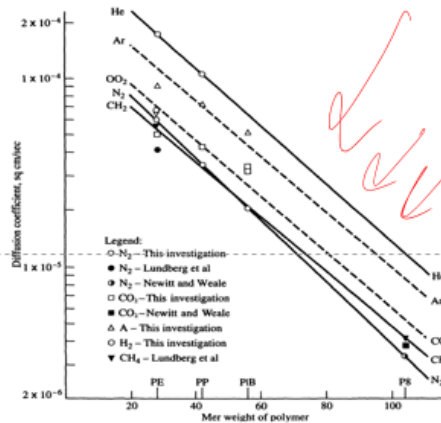

Fig 3: Diffusivities of gases versus polymer mer weight
- The relation indicated in Fig. 3 between **diffusivity and mer weight** is actually **between the diffusivity and mobility of the diffusing species** since these **polymers differ structurally** in the pendant groups attached to the basic polyethylene chain.